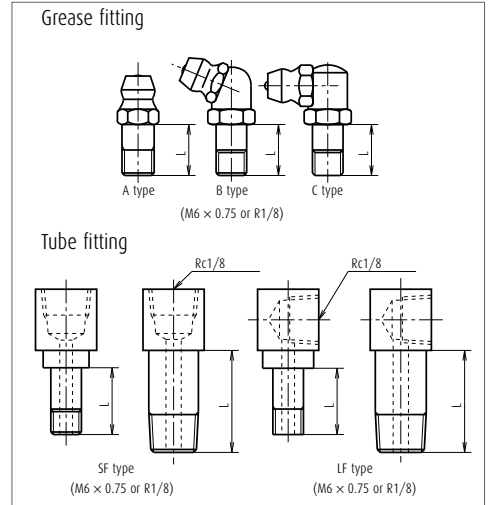

Fig. 12 Grease fitting and tube fitting
(1) Types of lubrication accessories
Fig. 12 and **Table 7** show grease fittings and tube fittings. We provide lubrication accessories with extended thread body length (L) for the addition of dust-proof accessories such as NSK K1 lubrication unit, double seal and protector. We provide a suitable lubrication accessory for the special requirement on dust-proof accessories.